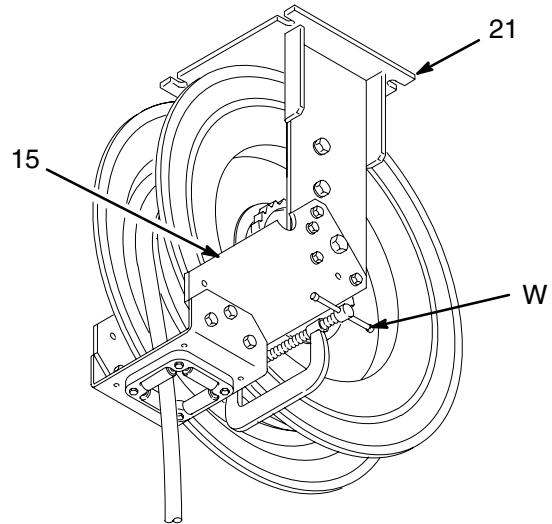

Fig. 10
3. Attach a c-clamp (W) to the reel flange to help prevent the reel from unintentionally becoming unlatched and spinning freely. See Fig. 10.